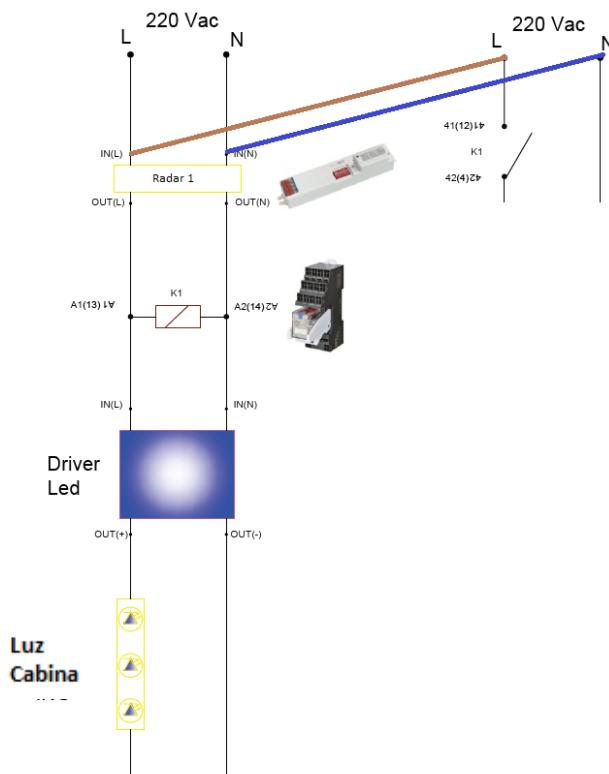

Fig. 5
- V. We will take phase (L) and it will connect to **pin 41 (12) of the OMRON relay (Fig. 5): IMPORTANT.**